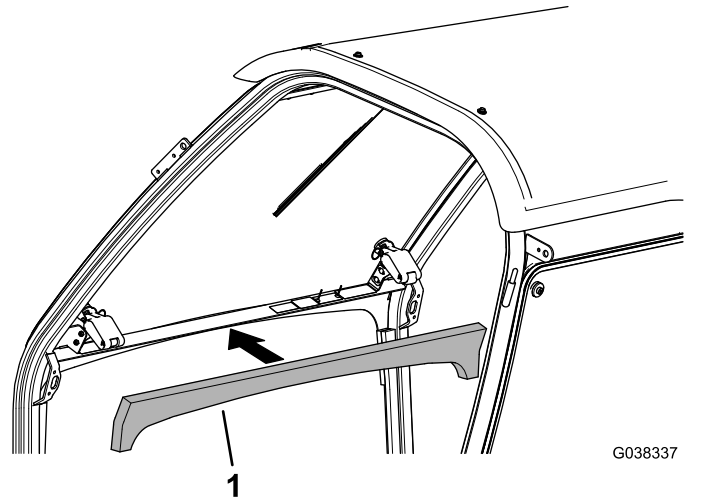

Figure 10
3. Install the front sealing foam if it is not already installed (Figure 10).